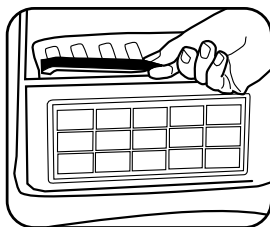

Fig. 5
1. To turn the vacuum on, push the switch located on the dust compartment to the (I) position (Fig. 5).
2. To turn the vacuum off, push the switch located on the dust compartment on the (O) position.
2. Remove the secondary filter, and replace it with a new filter (Fig. 5).